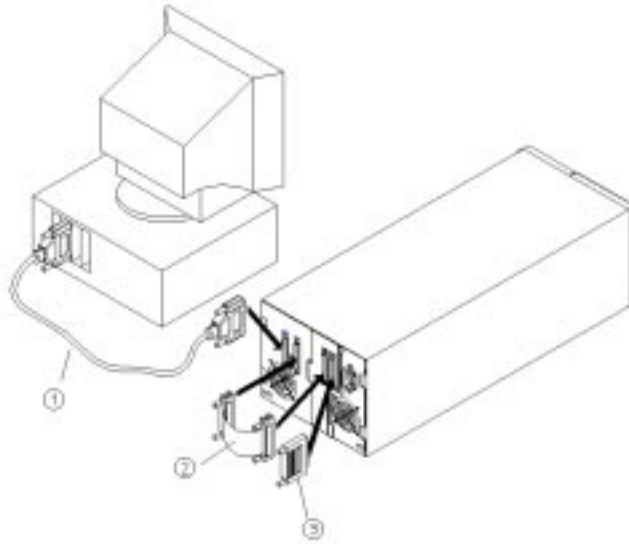
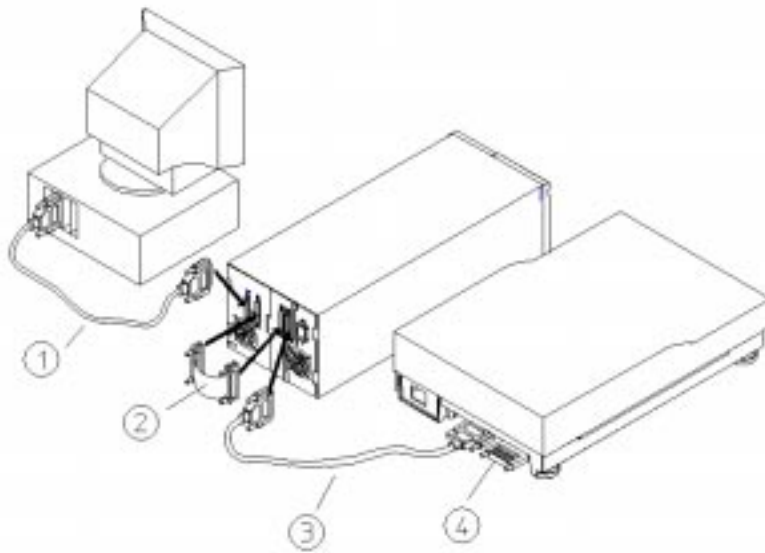

FIGURE 1-11 Autoloader as the Only Peripheral
FIGURE 1-12 Autoloader With Other Peripherals
- 5. Ensure the SCSI terminator is installed as shown in FIGURE 1-11 or FIGURE 1-12.**